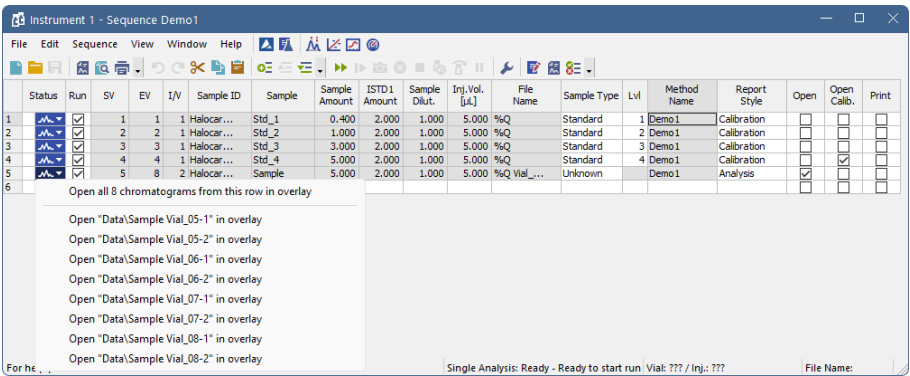

Fig. 12: Opening chromatograms in overlay
- Already measured rows will change their *Status* from green field ( ) to icon with small chromatogram ( ). During the measurement, the icon is orange. A small triangle will appear in the icon ( ) if a chromatograph is produced by the particular measurement in the row. Left mouse click on the triangle will reveal the option to open the chromatogram(s). You can click on the name of the chromatogram to open it or select option to open all chromatograms in overlay as seen in **Fig. 12** on pg. 20.